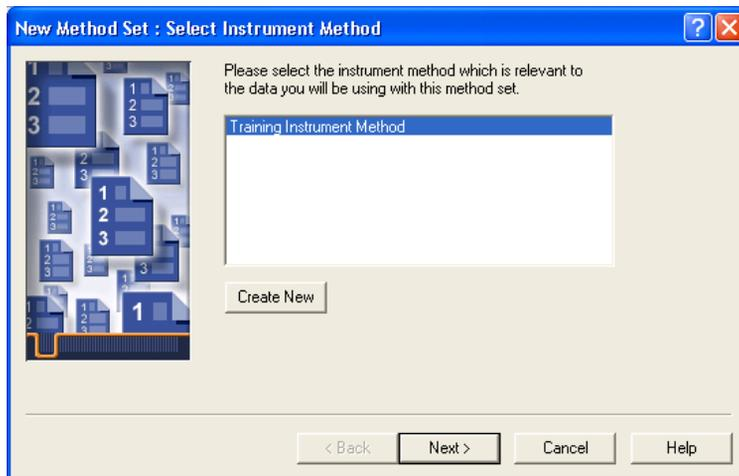

Figure 3-11 New Method Set : Select Instrument Method Page
3. Close the Instrument Method Editor. The New Method Set : Select Instrument Method page appears (Figure 3-11).